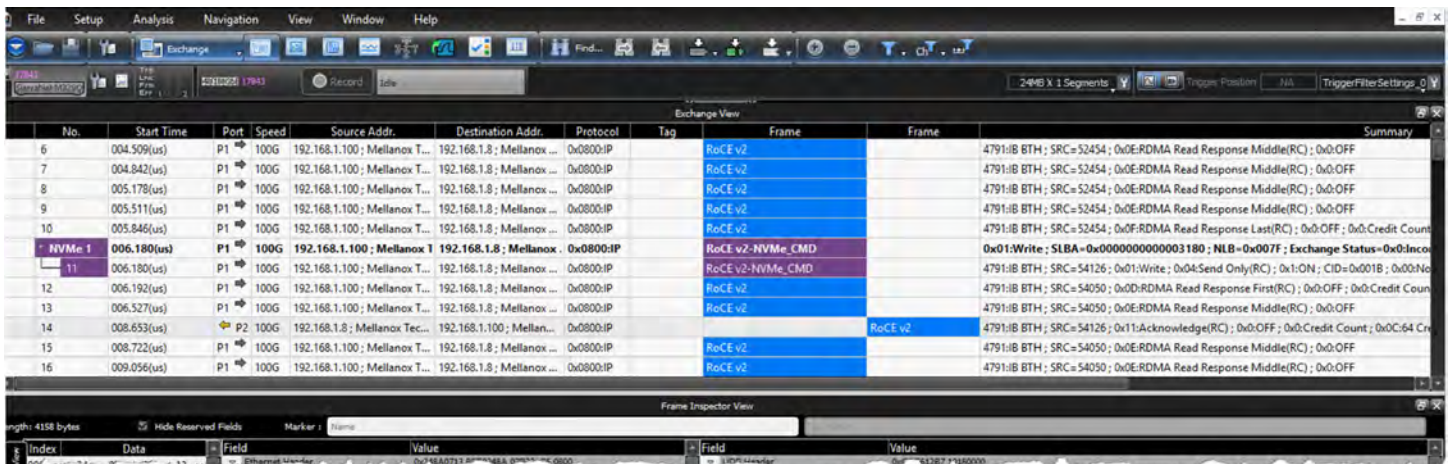

Figure G.9: Example of New Trace with Changes
5. Press the **Apply Changes to Preference** button on the Decoder, then click **Close**. The analyzer adds your changes the Trace. An example of the new Trace with changes is shown in Figure G.9.